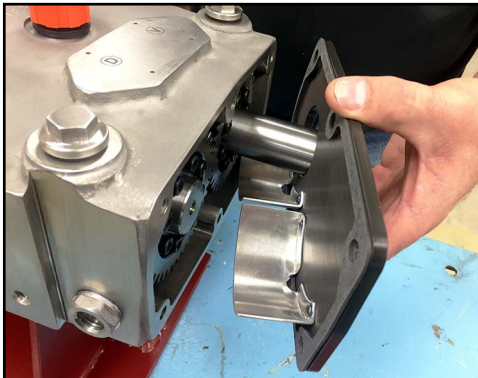

Figure 254 - Remove gear case cover
3. Remove the gear case cover. Discard the cover gasket as shown in Figure 254.